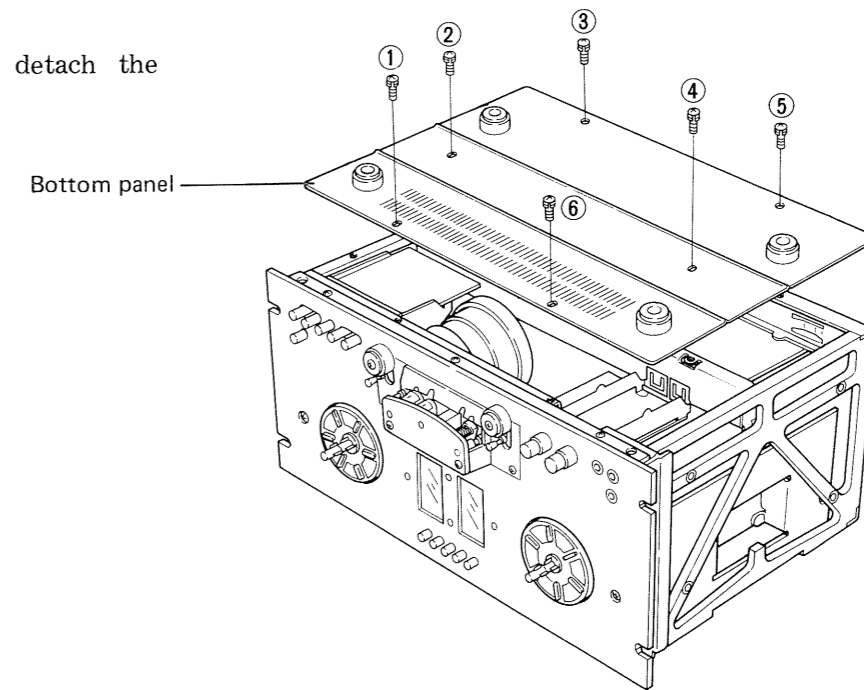

Fig. 18
Remove the screws ①~⑥ to detach the bottom panel as shown in Fig. 18.